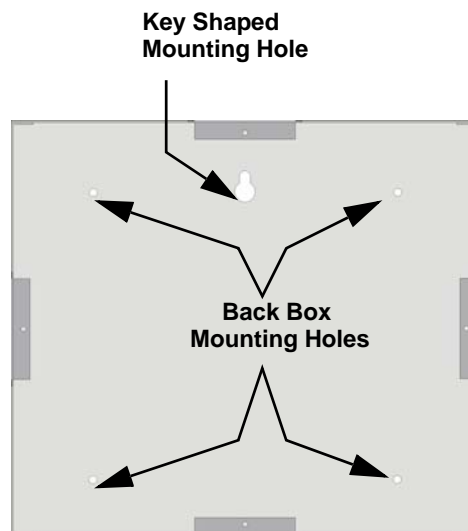

Figure 4-19 Back Box Surface Mount Holes
2. To properly mount the back box, insert a single screw into the key shaped mounting hole. Do not tighten all the way. See Figure 4-19.